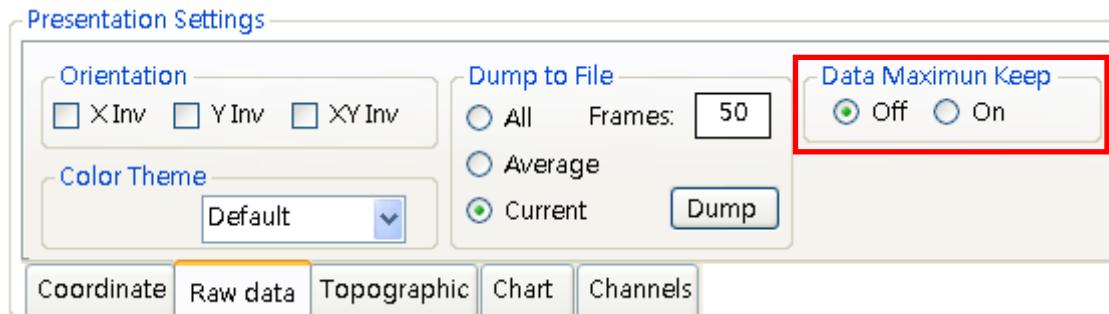

Figure 4-8 : Data Maximum Keep of data viewer
3. Data Maximum Keep: In Figure 4-8, the “Data Maximum Keep” means the type of observing raw data that shows in the data grid, it has 2 modes to be selected: